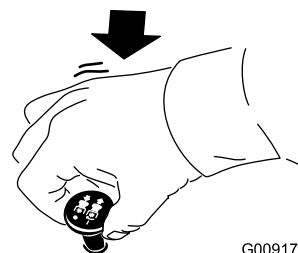

Figure 13
- Move the blade-control switch (PTO) to the OFF position (Figure 13).